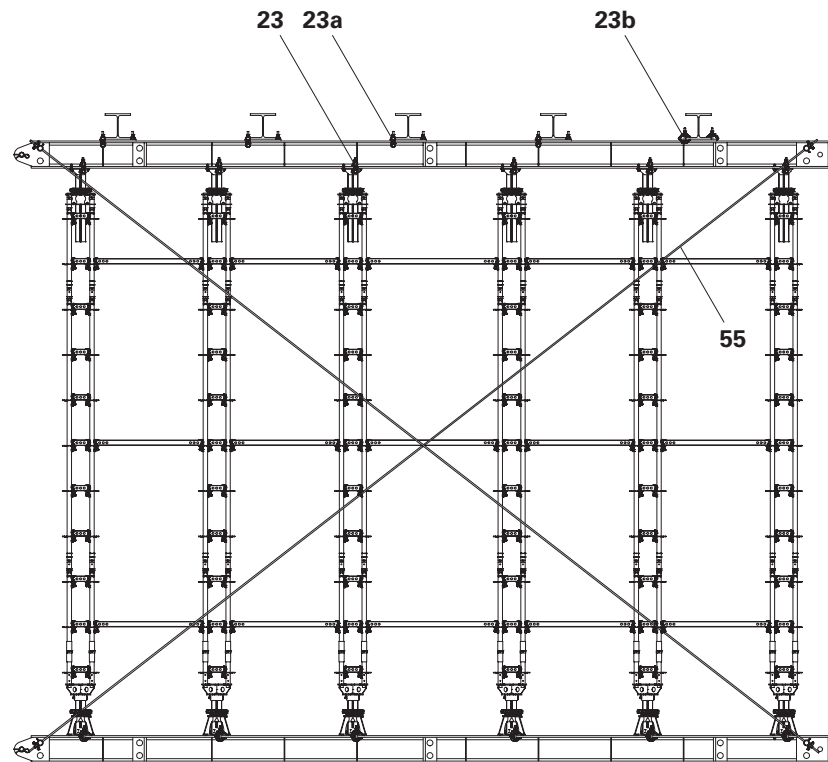

Fig. B1.02
Transfer horizontal loads from the main beam to the base beam via diagonal bracing (55) consisting of DW 15 Tie Rods (if necessary DW 20). From here, transfer the load into the substrate via friction or built-in parts and foundations. (Fig. B1.02)